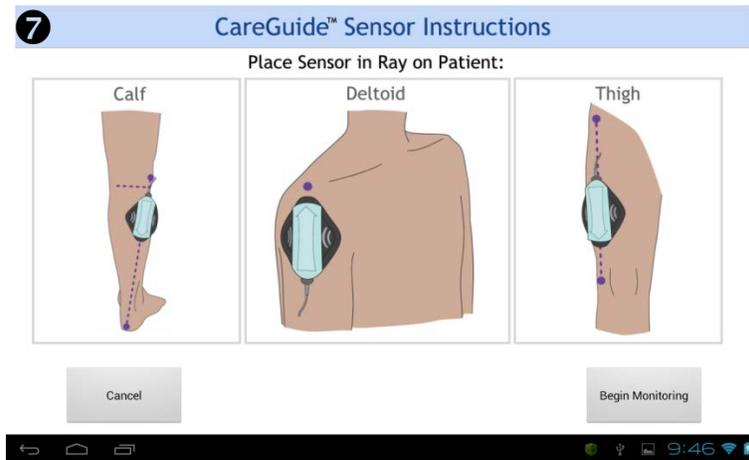

Figure 9. Placement Instructions Screen
- 7 If the Sensor Check passes, the Display will prompt you to place the Sensor & Ray on the patient (Figure 9 ⑦).